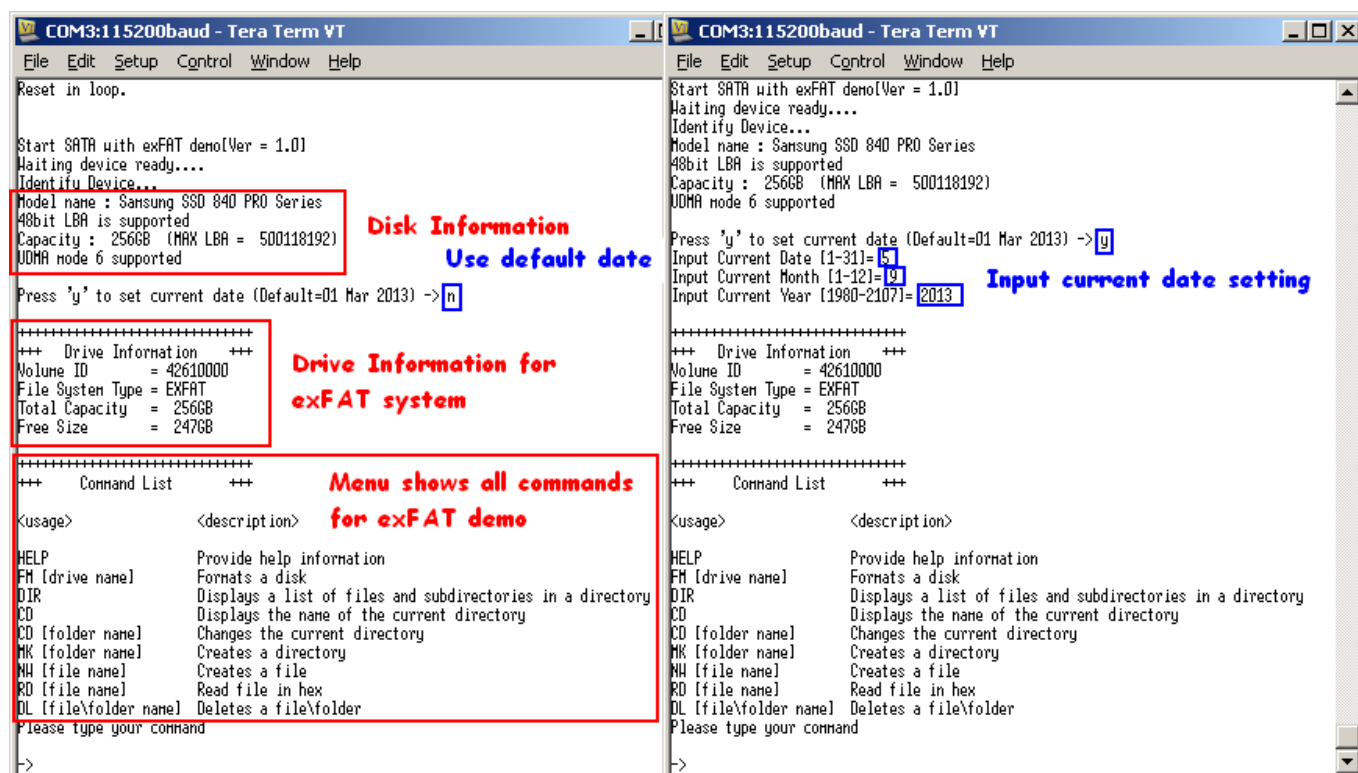
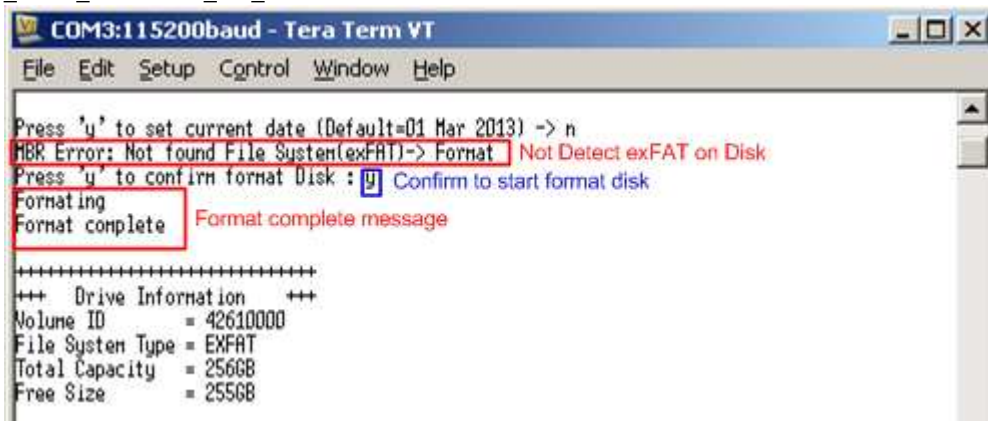

Figure 2-4 Main Menu when exFAT detect in disk
Figure 2-5 Format menu when exFAT file system not found in disk
- At serial console on PC, main menu will be displayed as shown in Figure 2-4. Please check serial connection if this menu is not displayed on console. The step on boot screen is follows.
- (1) Disk information is displayed to show name and size.
- (2) Ask user to set date which is the created date when creating file/directory. Press 'y' to set date, or press other keys to skip setting and use default value instead (Default is 1 Mar 2013).
- (3) a. Show File system information if exFAT file system has already detected on this disk.
b. If no exFAT file system on disk, user needs to press 'y' to confirm and start format process, as shown in Figure 2-5.
- (4) Information about exFAT file system on disk is shown in next line.
- (5) Main Menu to show all supported command in this demo is displayed on last line.